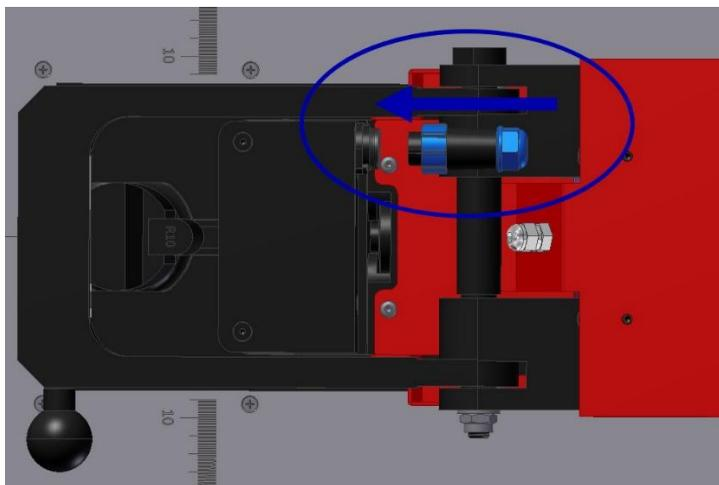

Fig. 33.
- When the station has just been started, carry out the operations according to item 5.1
- Equip the station with the bending mandrel and measuring insert according to item 6.1.1 and enter the settings according to item 5.2
- Close the clamp (fig. 33).